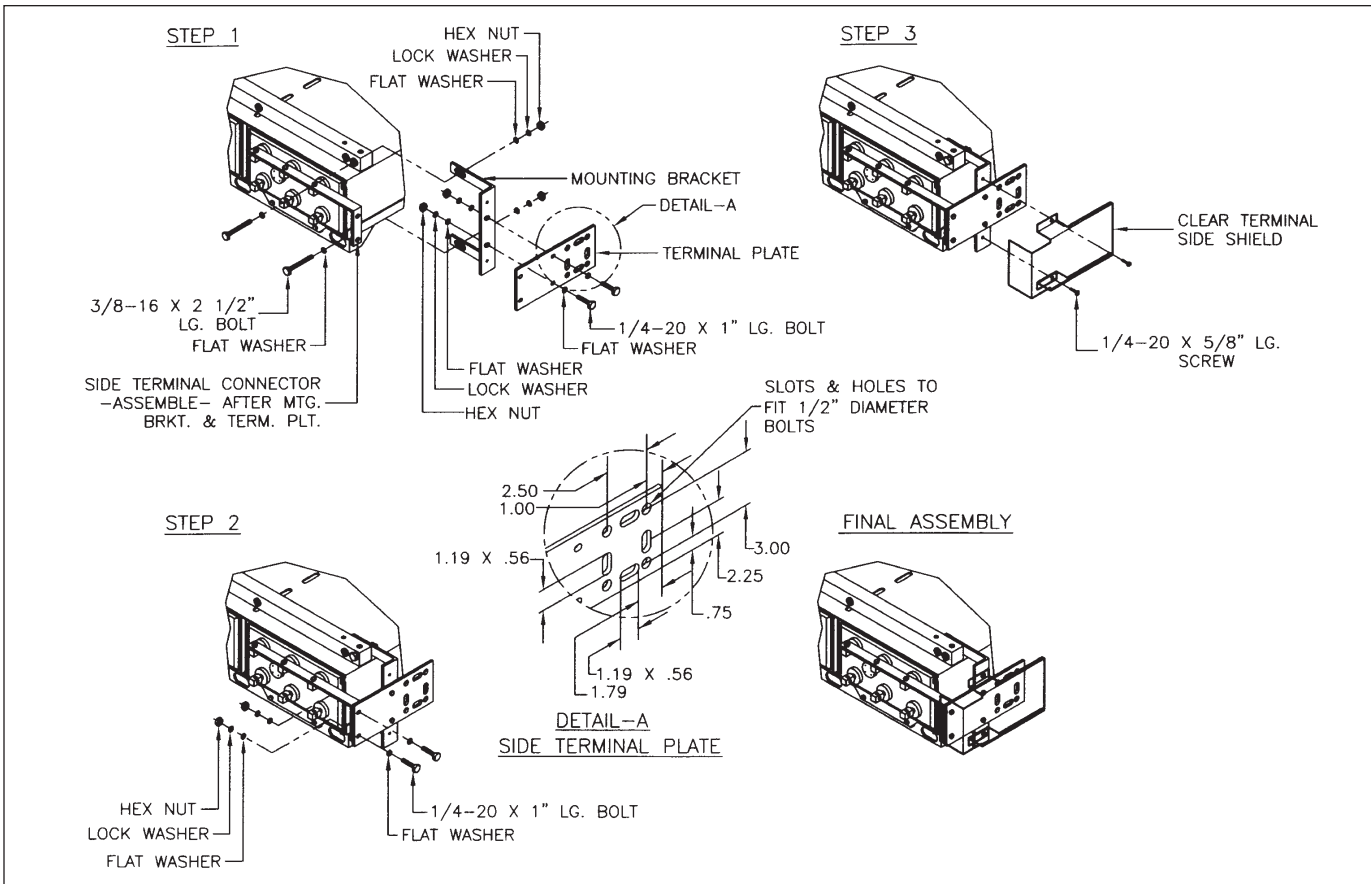

Fig. 5-1
1. Attach the terminal mounting bracket to the module frame. (See Fig. 5-1 and 5-1A, pg.12 for Side Terminal; See Fig. 5-2, pg. 13 for Top Terminal)
For side terminal shield assembly, (Refer to Fig. 5-1, pg. 12 and 5-6, pg. 6.)